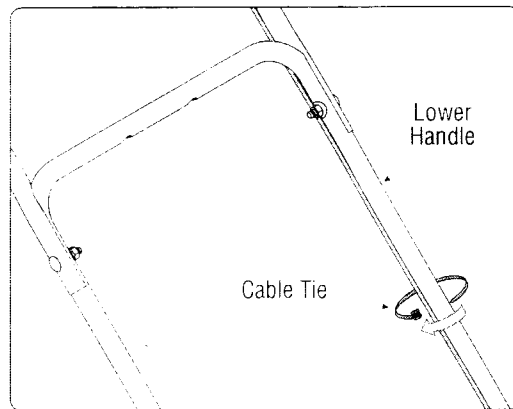

Figure 8: Use the cable tie to secure the brake cable to the lower handle.
6. Secure the cable to the lower left handle with a cable tie from group 3 of the hardware pack. Trim off extra length of the cable tie. See Figure 8.